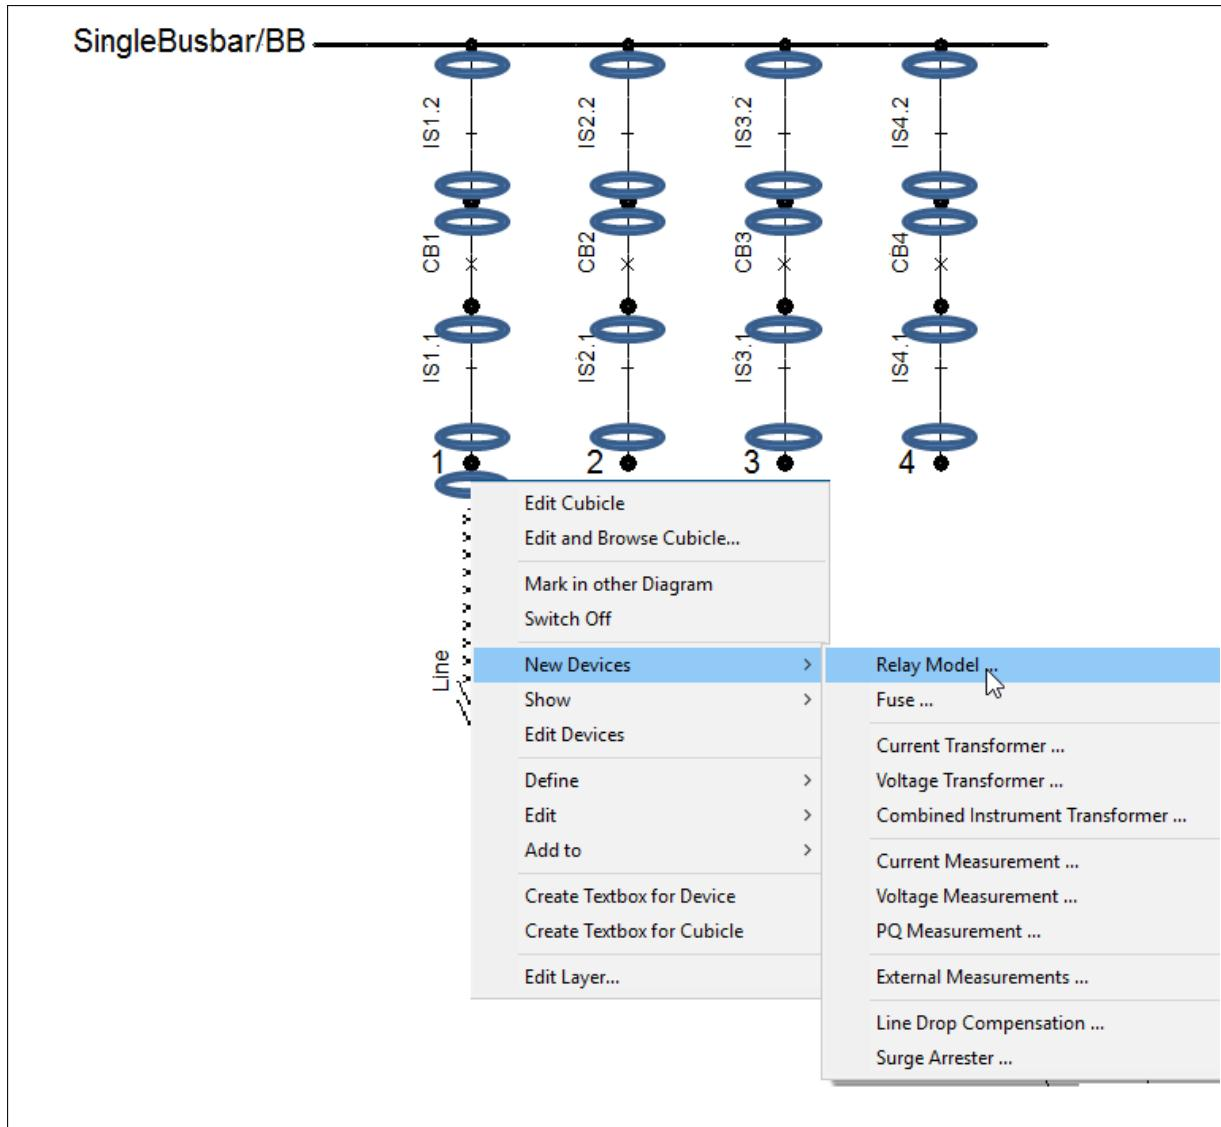

Figure 33.2.3: Adding a new protective device to a detailed substation graphic
- (b) Right-click the specific part of the substation where you would like to add the relay. A context sensitive menu will appear. See Figure 33.2.3 for an example substation showing possible locations where protection devices can reside.